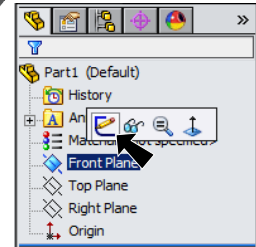

Fig. 1
Step 2. Click **Front Plane**  in the Feature Manager and click **Sketch**  from the Context toolbar, **Fig. 1**.
Step 3. Click **Line**  (L) on the Sketch toolbar.